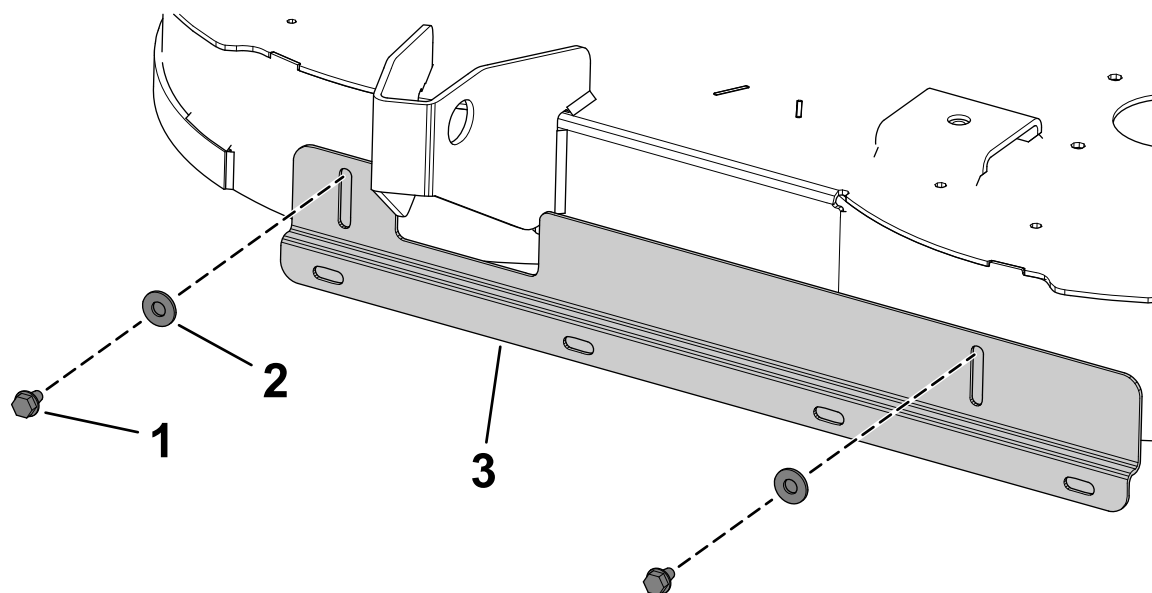

Figure 2
2. Secure the striping bracket to the mower deck using 2 washer-head screws (5/16 x 1/2 inch, self-threading) and 2 flat washer (5/16 inch) as shown in Figure 2.